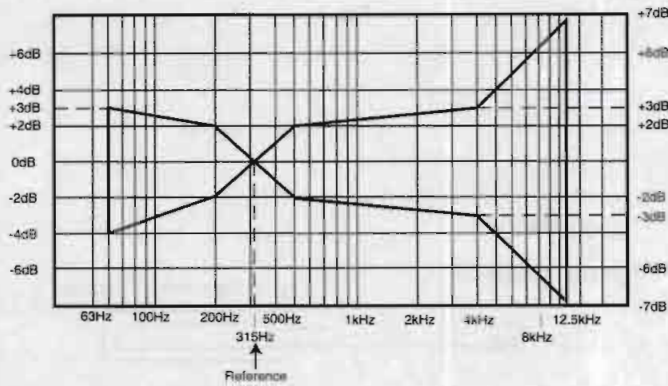

Fig. 8
2. Playback the 315Hz/-20dB and 12.5kHz to 63Hz/-20dB sections of the test tape(QZZCFM) and then, using the 315 Hz/-20dB playback output as a reference(0 dB), confirm that the playback frequency response is within the range shown in Fig. 8.